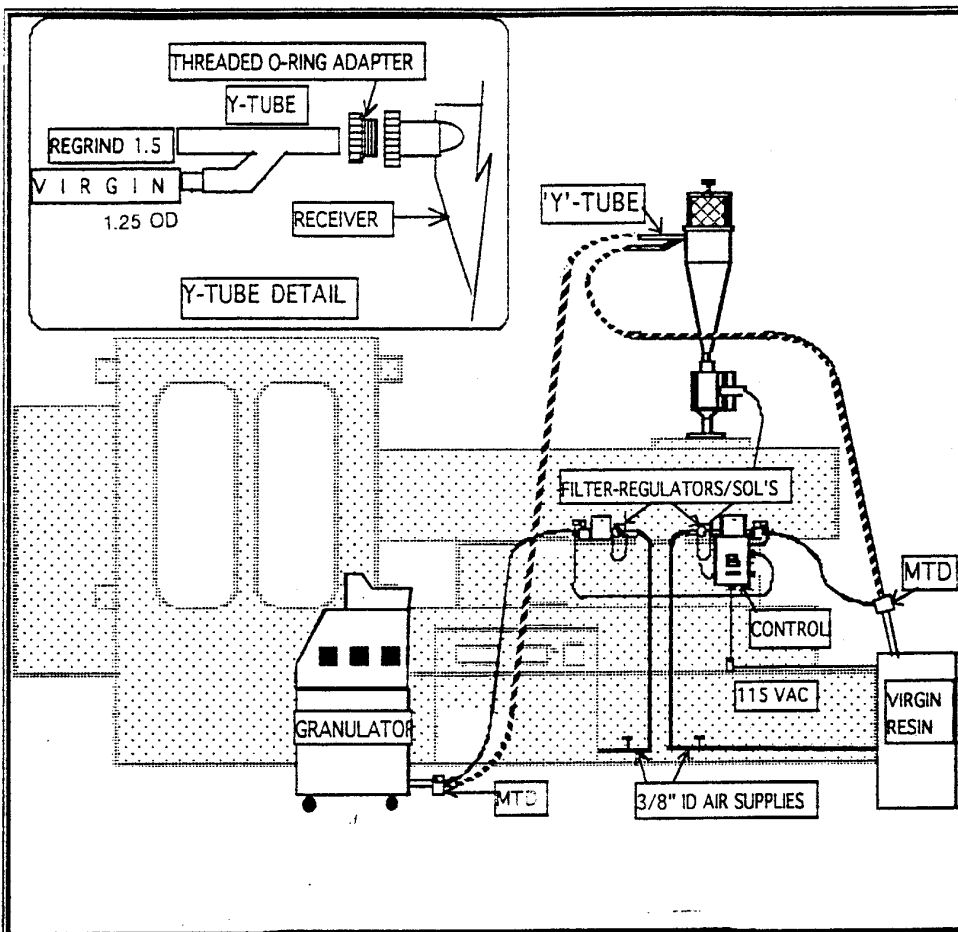

FIGURE 2 - RATIO LOADER SETUP
**SECTION****1****DESCRIPTION****RATIO LOADING** (See Figure 2, Next Page)
Follow the same steps as with the single tube loader, **except** (refer to **Figure 2, Page 1-6**):